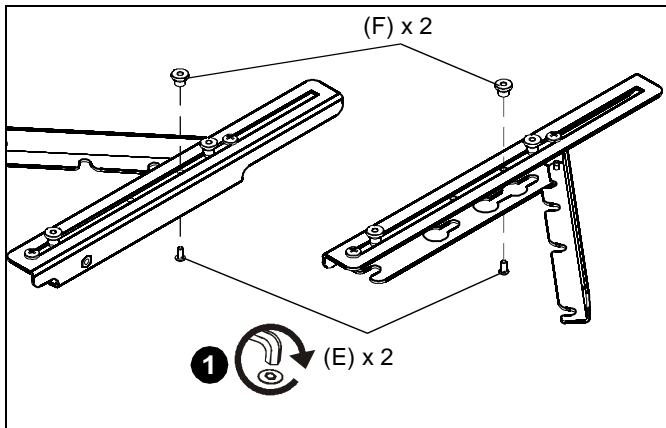

Figure 1
1. Attach one thumb nut (F) with one 8-32 x 3/8" button head security cap screw (E) to both LSB101 brackets (A and B). (See Figure 1)